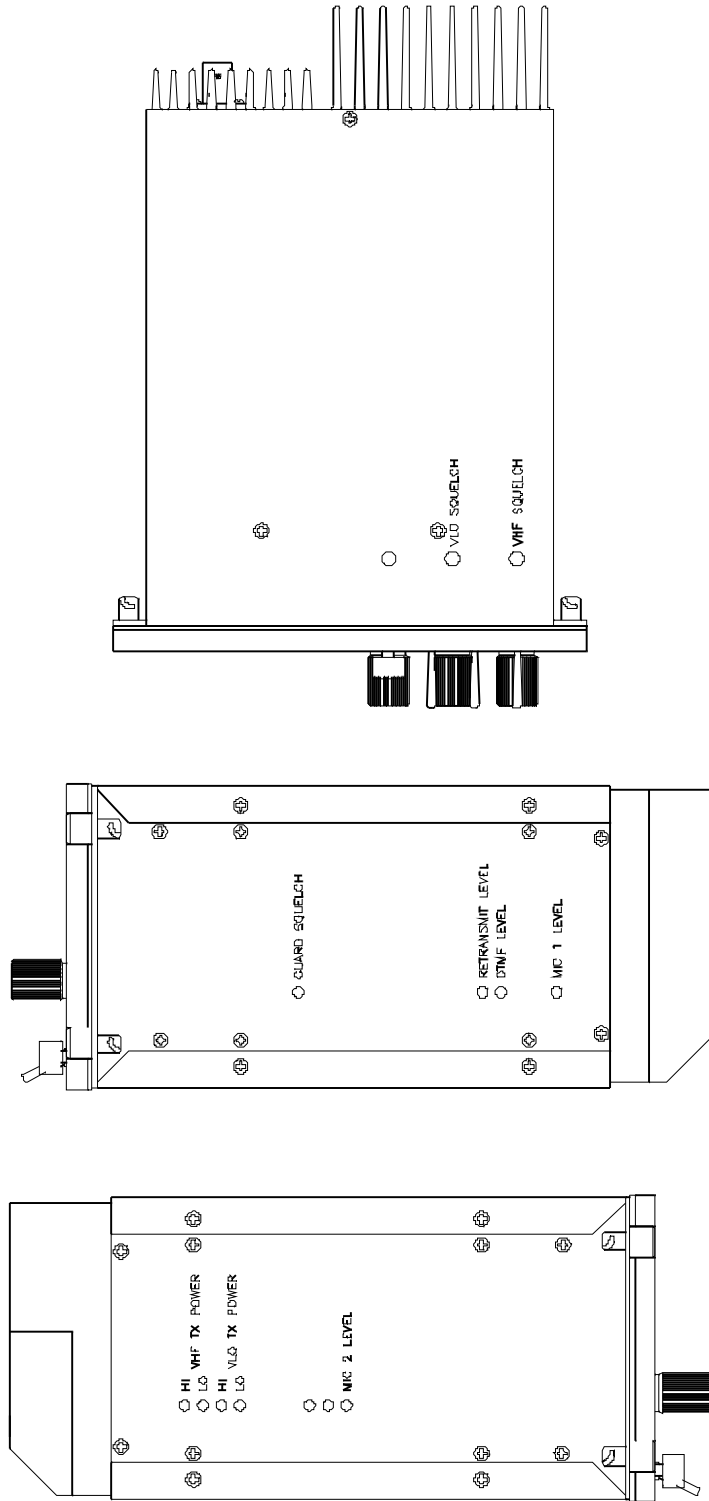

FIGURE 3.5 External Adjustment Access Holes
3. Adjust the microphone level potentiometer (Mic Level 1) through the access hole located on the right side of the chassis (see Figure 3.5) to produce a 2.7 kHz deviation.
3. If not, re-adjust receiver squelch potentiometer through the access hole located on the bottom or side of the transceiver chassis (see Figure 3.5).